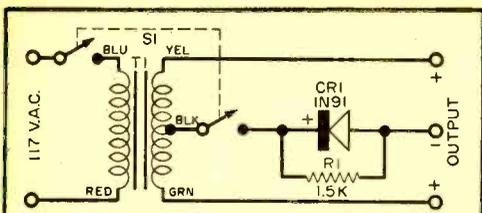
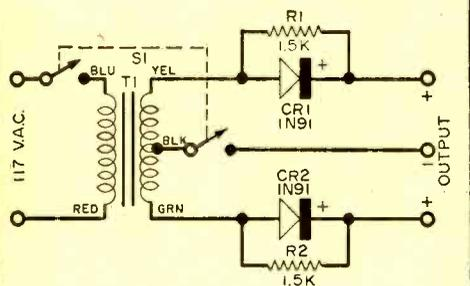

Fig. 1. Circuit for rejuvenating one dry cell.
Fig. 2. Circuit for rejuvenating two dry cells of the same or different size and type simultaneously. It will also accommodate single cells.
**Circuit Details.** In the circuit of Fig. 1, a dry cell to be rejuvenated may be connected from the center output terminal to either side output terminal, *but not to both simultaneously*. In other words, this circuit should be used to rejuvenate only a single dry cell, and two connections giving identical results are available for the process.
If you aren't using many dry cells at present, and rejuvenating one cell at a time will fill your needs, build the circuit of Fig. 1. Then, if you require additional facilities later on, it's a simple matter to modify the setup to accommodate the extra rectifier and resistor required in the circuit of Fig. 2.
**Construction.** The rejuvenator shown in the photos is the assembled circuit of Fig. 1. Appearance of the setup for Fig. 2 would be identical except for the additional rectifier and resistor. Either unit may be assembled in the handy little plastic box in which the transformer, *T1*, is purchased.
\*CR2 and R2 are required only for the circuit of Fig. 2
This model of the rejuvenator is the circuit of Fig. 1 assembled in the plastic box which originally contained the transistor audio transformer.
Don't try to rejuvenate two cells simultaneously with the circuit of Fig. 1. It won't work. The two positive terminals are provided on this unit merely for convenience. If you want to charge two cells at once, use the circuit of Fig. 2.